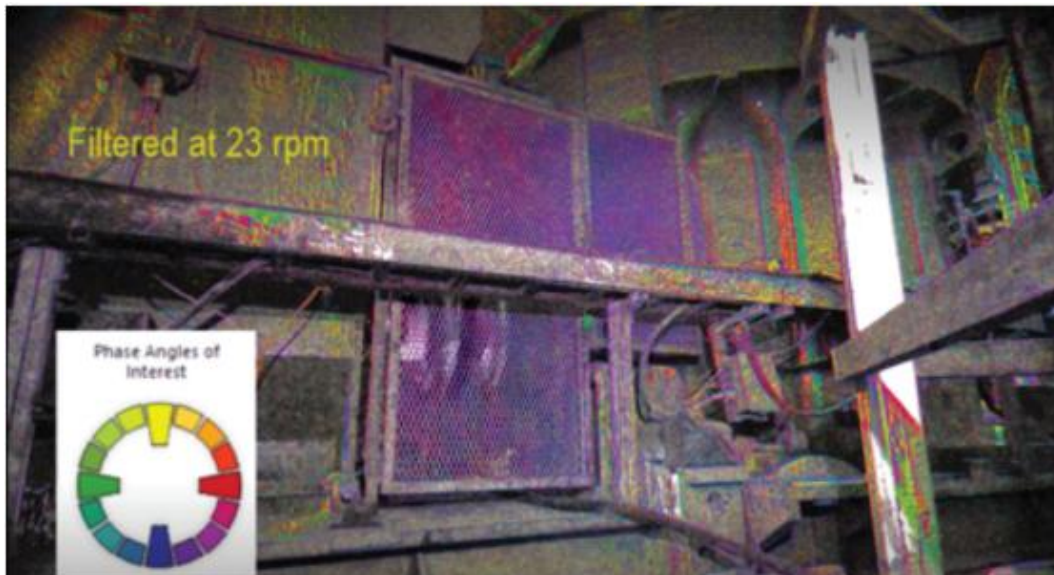

Fig. 5. Phase Map.
**Phase Map** is a technique by which a colorized, full-field phase overlay can be applied to an image, showing the relative phase for a given frequency across the entire image. Like a Motion Map, this gives a quick and comprehensive view of the entire field of vibration, indicating which areas of the image are in and out of phase with one another at a particular frequency. This is particularly helpful for diagnosing issues with shafts and bearings, such as a  $180^\circ$  relative phase shift across a coupling, which indicates misalignment. Phase uses color to convey the phase relationship of different asset components. Fig. 5 shows a cement raw mill; the relative phase is shown filtered at 23 RPM.